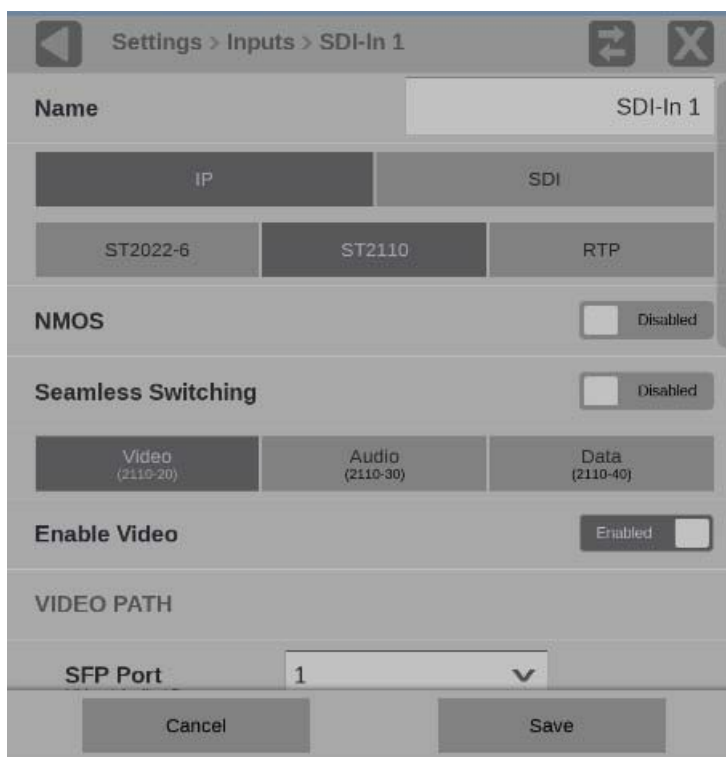

Figure 33: IP input protocols
4. Select **IP**. (See Figure 33.)